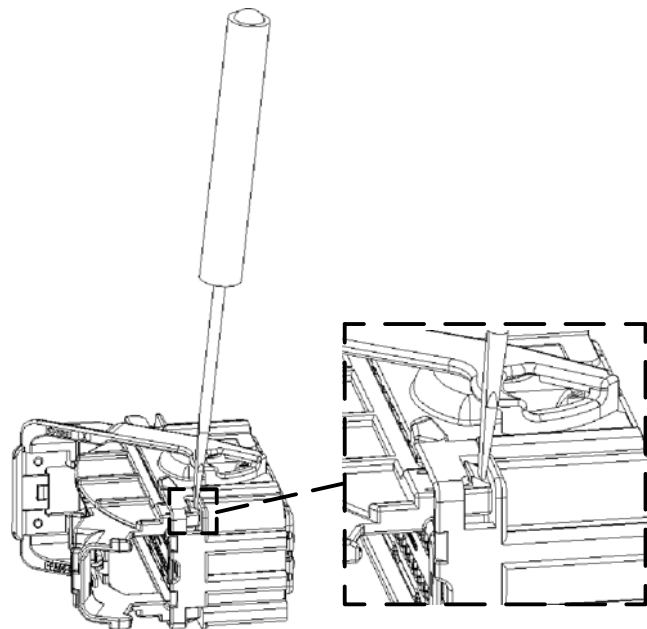

Figure 10
1. Position a jewelers' screwdriver (flat-bladed 2.0 or 2.4 mm [.079 or .094 in.] screwdriver) into the slot in the plug housing. The tip should be placed between the slot and the latch finger. See Figure 10.